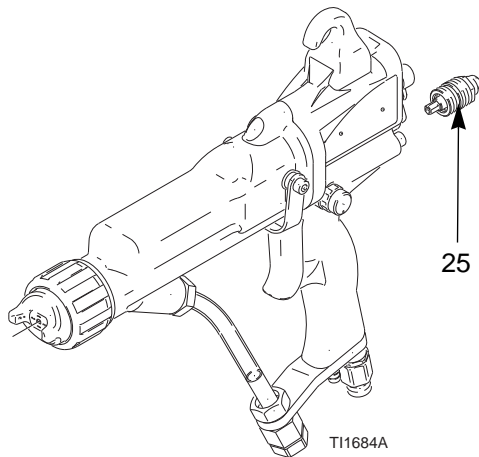

Fig. 33. Fluid Adjustment Valve
2. Remove the fluid adjustment valve (25). It can only be replaced as a complete assembly. See FIG. 33..
3. Screw the valve (25) into the gun handle. Torque to 15-25 in-lb (1.7-2.8 N•m).